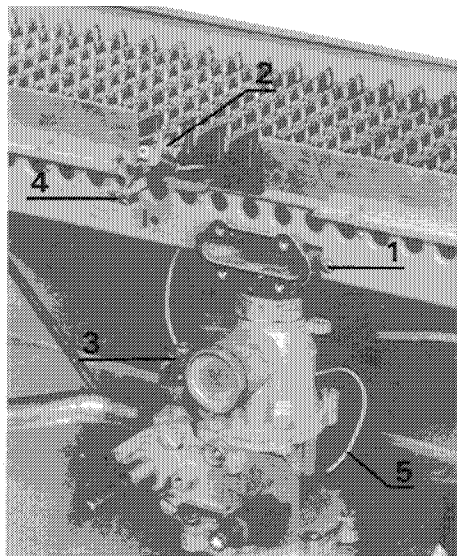

Fig. 24
- c) Slacken grub screw (3, fig. 24) holding pilot tube.
- f) Slide thermocouple support bracket (4, fig. 24) forwards and lift clear of burner.
- g) Remove clamping screw (2, fig. 24) and part thermocouple support bracket.
- a) Pull electrode lead (5, fig. 24) off to the rear.